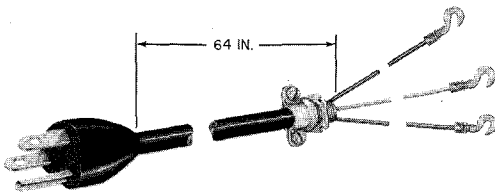

Fig. 4—KS-19425, List 22 Cable Assembly
- (a) **KS-19425, List 22 cable assembly (Fig. 4)**. Used to bring overhead power into an indoor booth or to connect adjacent booths in multiple installations